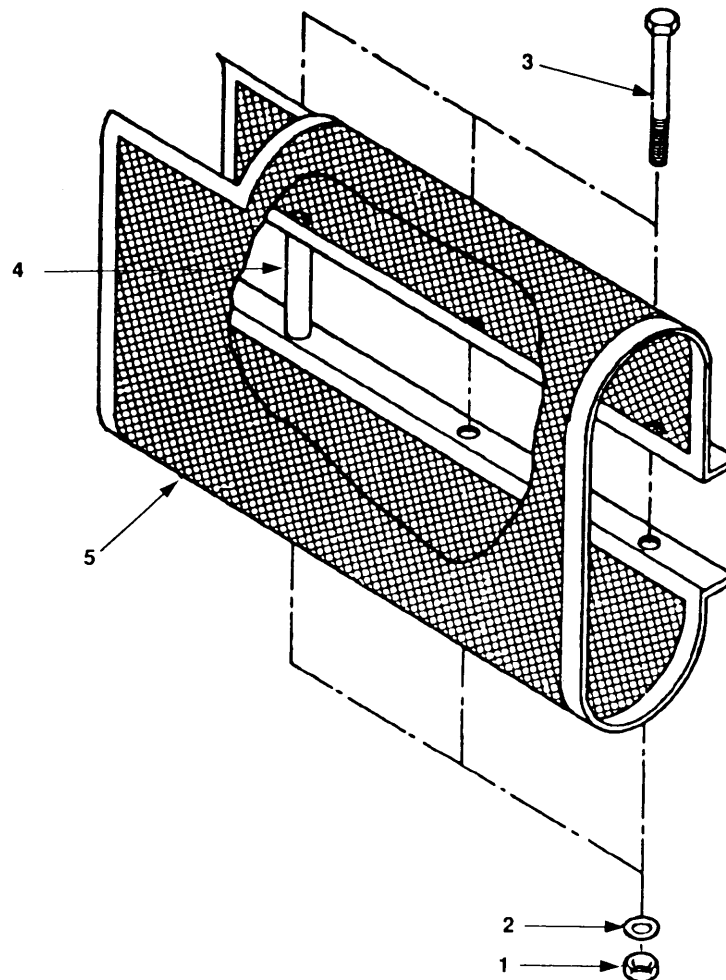

Figure 4-3. Exhaust Heat Shield Maintenance.
- a. Remove three nuts (figure 4-3, 1), lockwashers (2), bolts (3), and one spacer (4).
- b. Slide heat shield (5) off muffler and exhaust pipe.
- a. Inspect heat shield (5) for excessive burning or damage.